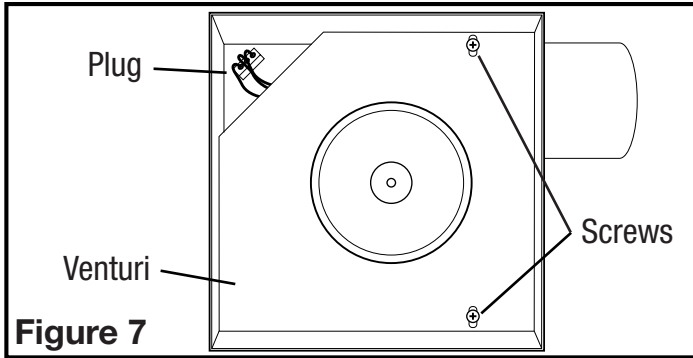
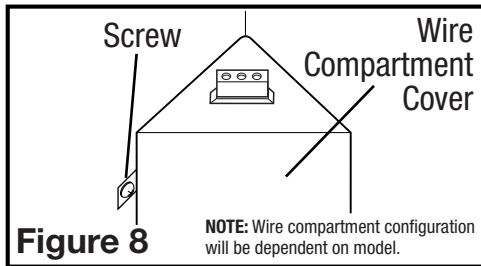

Figure 7
Figure 8
- 1b. **Internal Wire Compartment:** Remove the screws holding the blower assembly in place and lift assembly out of housing (**Figure 7**). Remove the wire compartment cover screw and place the cover in a secure place (**Figure 8**).